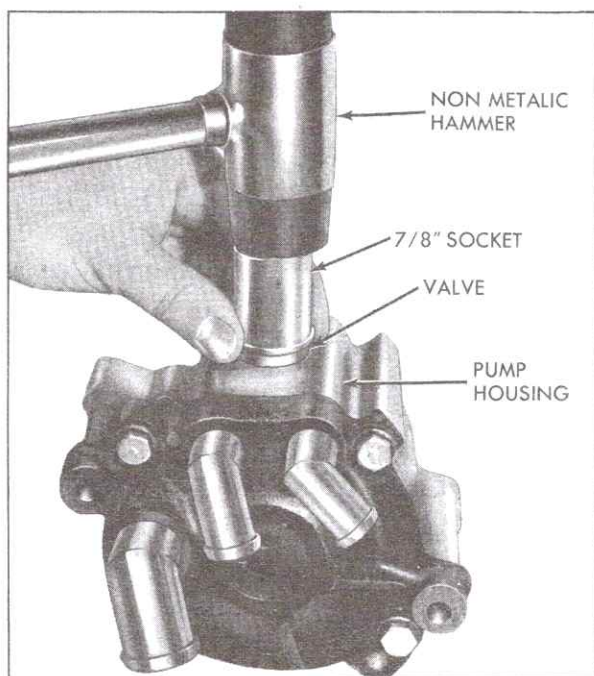
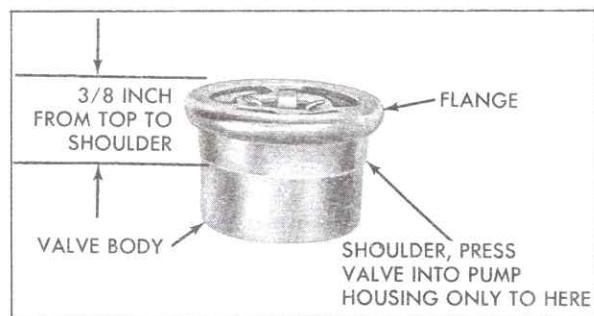

Fig. 6-162 Installing Pressure Relief Valve
Fig. 6-163 Pressure Relief Valve
2. Position new valve in bore in pump housing and seat with 7/8 inch socket and non-metallic hammer, Fig. 6-162. Seat valve so that shoulder rests on outer surface of pump housing. Valve should protrude 3/8 inch, Fig. 6-163.